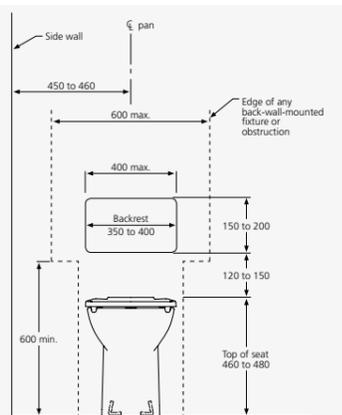
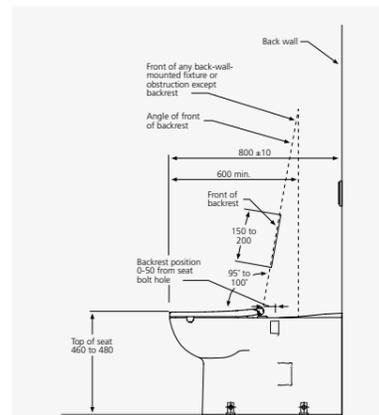

Figure 5
Figure 6
**A back rest** shall be provided on accessible toilets. The back rest shall be capable of withstanding a force in any direction of 1100 N. It should have a height at the lower edge of the back rest to the top of the toilet pan seat of 120mm to 150mm as shown in Figure 5. The size of back rest itself should be between 150mm and 200mm high and 350mm to 400mm wide. The front edge of the centre of the back rest should be positioned to achieve an angle of 95° to 100° back from the seat hinge location. Back rest to be positioned between 0 and 50mm back from the seat bolt hole, as shown in Figure 6.